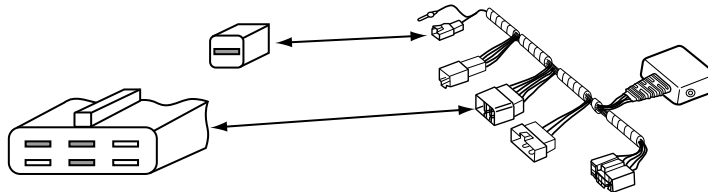

Figure 12-3 6-pin and 1-pin connectors and MULTI-2 adapter
- Use the MULTI-2 adapter (Figure 12-3).